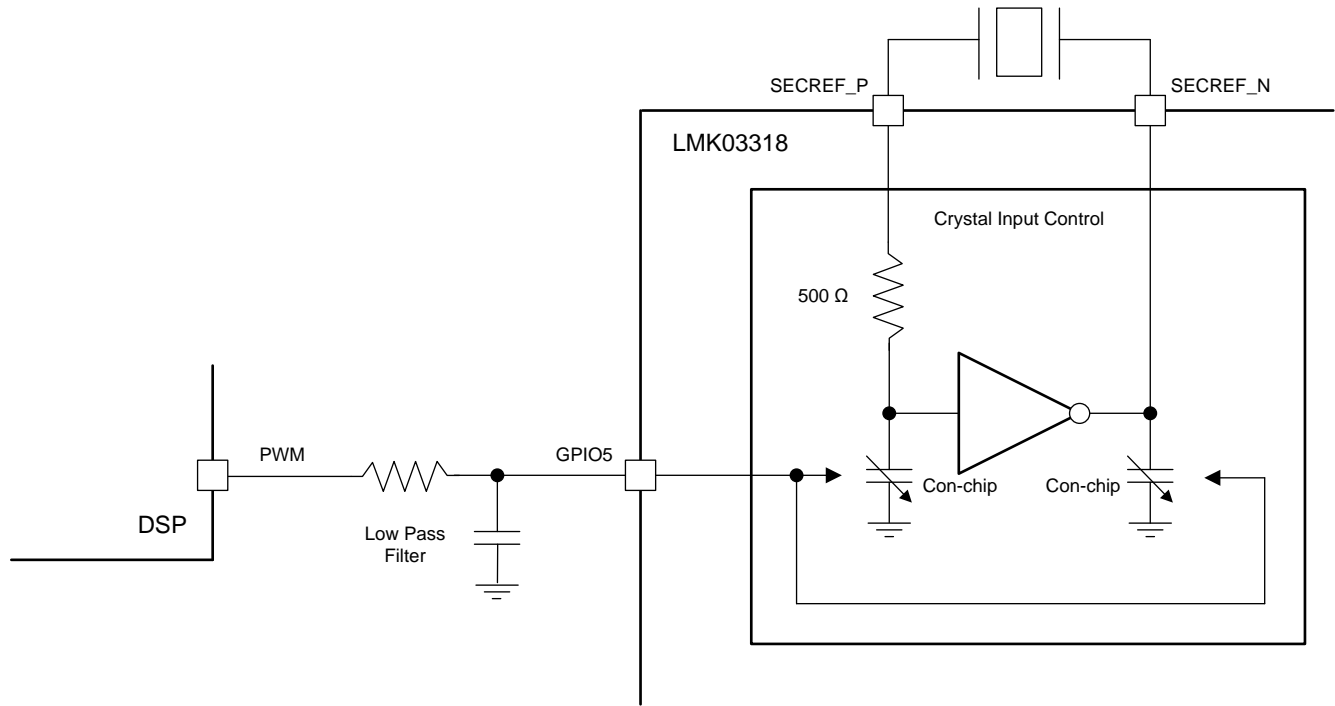

Figure 57. Crystal Load Capacitance Compensation using PWM Signal
- The second method is using a low-pass filtered PWM signal to drive the 8-level GPIO5 pin as shown in Figure 57. The PWM signal could be generated from the frequency difference between a highly stable TCXO and the output of LMK03318 that is provided as a feedback into the GPIO5 pin and used to adjust the on-chip load capacitance on the crystal input in order to reduce frequency errors from the crystal. This is a quick alternative that produces a frequency error at the LMK03318's output and could be acceptable to any application when compared to a full-characterization with a chosen crystal to understand the exact load pulling required to minimize frequency error at the LMK03318's output. More details on frequency margining are provided in Application and Implementation.